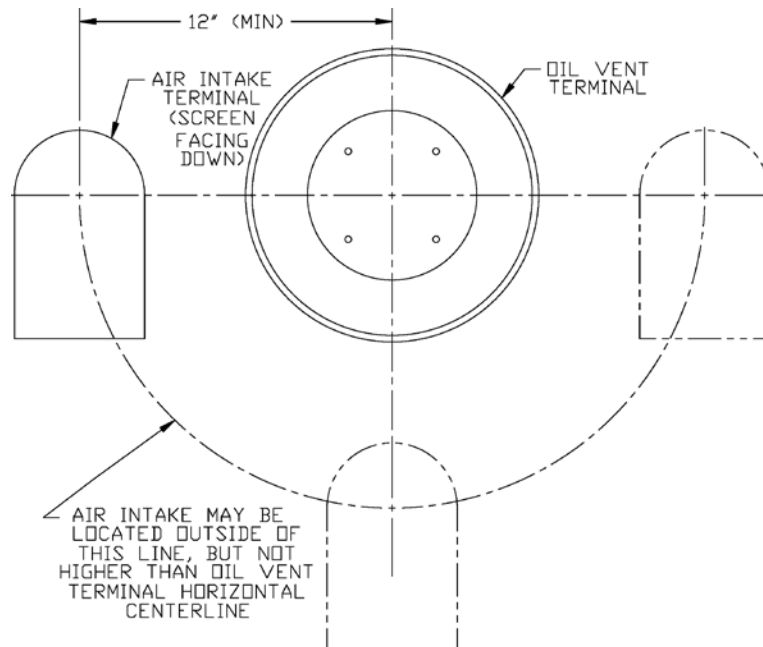

Figure 9: Intake Terminal Location
6. Intake Terminal Location (Direct Vent only) - Locate Air Intake Terminal not less than 12 inches to the left, right, or bottom of the vent terminal. Do not locate air intake terminal above vent terminal. Intake terminal must be at least 12 inches above grade plus snow accumulation; at least 1 foot from a roof soffit; at least 3 feet from an inside corner of an L-shaped structure. See Figure 9.